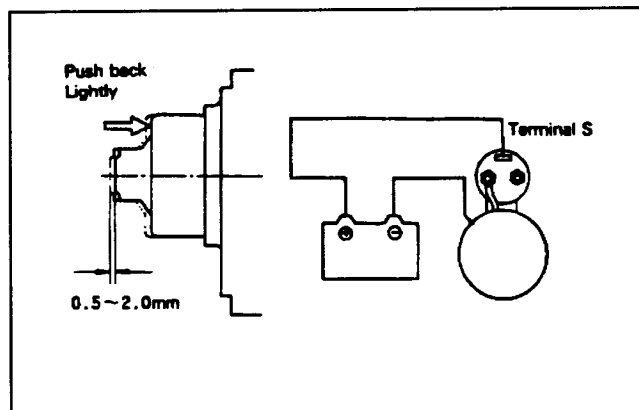

Figure 29
1. Install 12 volt battery between the "S" terminal and the starter body (Fig. 29). The pinion should protrude and stop.